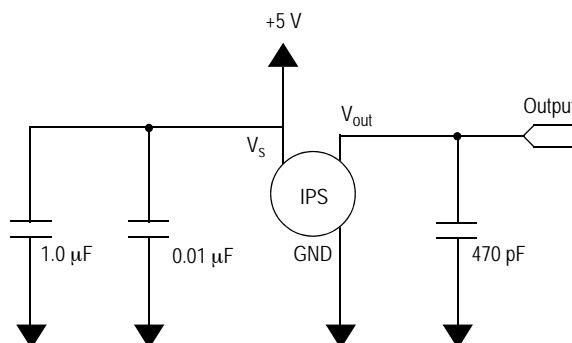

Figure 3. Recommended Power Supply Decoupling and Output Filtering
**Table 1. Operating Characteristics** ( $V_S = 5.1$  Vdc,  $T_A = 25^\circ\text{C}$  unless otherwise noted,  $P_1 > P_2$ . Decoupling circuit shown in Figure 3 required to meet electrical specifications.)
Figure 3 shows the recommended decoupling circuit for interfacing the output of the integrated sensor to the A/D input of a microprocessor or microcontroller. Proper decoupling of the power supply is recommended.
Figure 4 shows the sensor output signal relative to pressure input. Typical, minimum, and maximum output curves are shown for operation over a temperature range of 0° to 85°C using the decoupling circuit shown in Figure 3. (The output will saturate outside of the specified pressure range.)